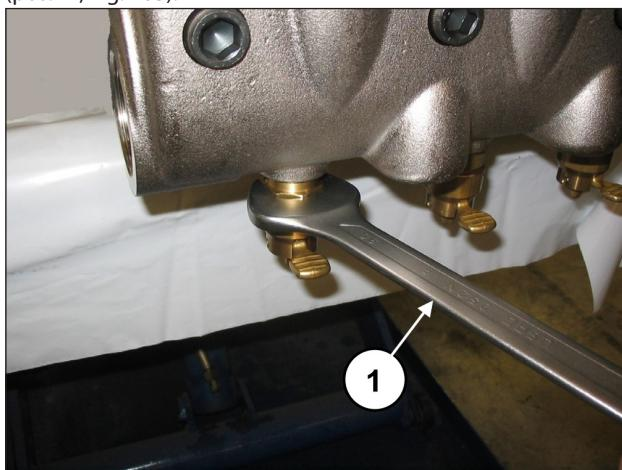

Fig. 103
Unscrew the valve opening device using a 30 mm wrench (pos. ①, Fig. 103).